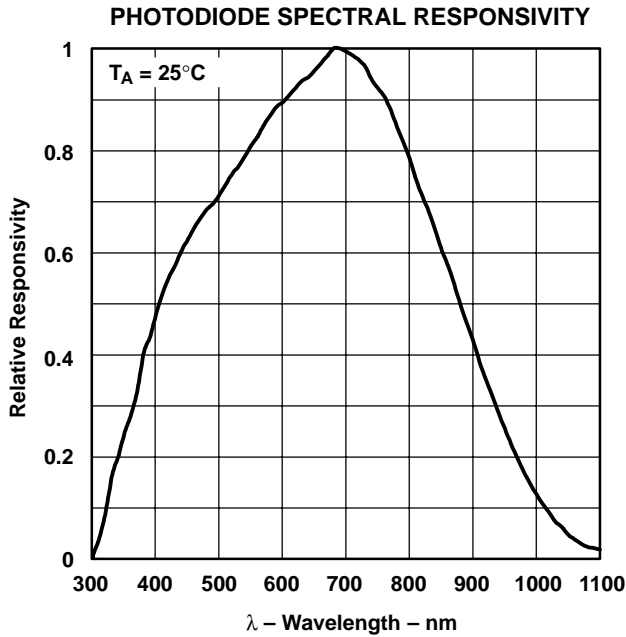
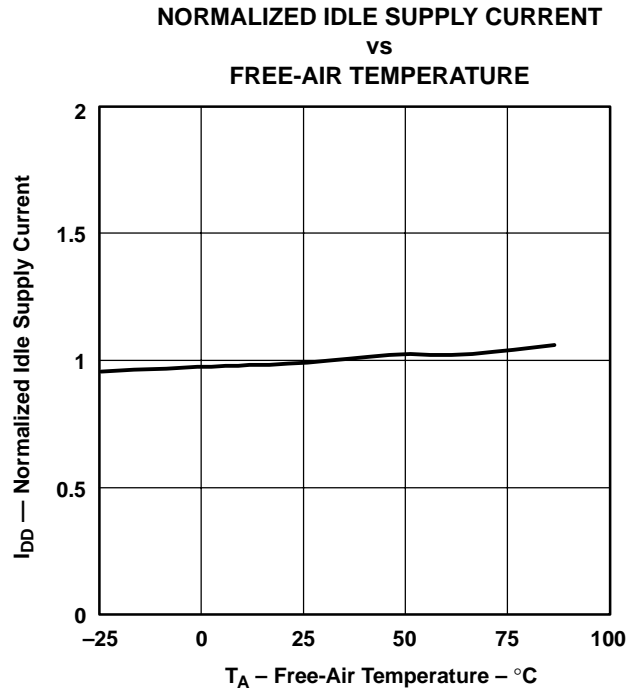

**Figure 1. Timing Waveforms**
**Figure 2. Operational Waveforms**
**Recommended Operating Conditions (see Figure 1 and Figure 2)**
### Timing Requirements (see Figure 1 and Figure 2)